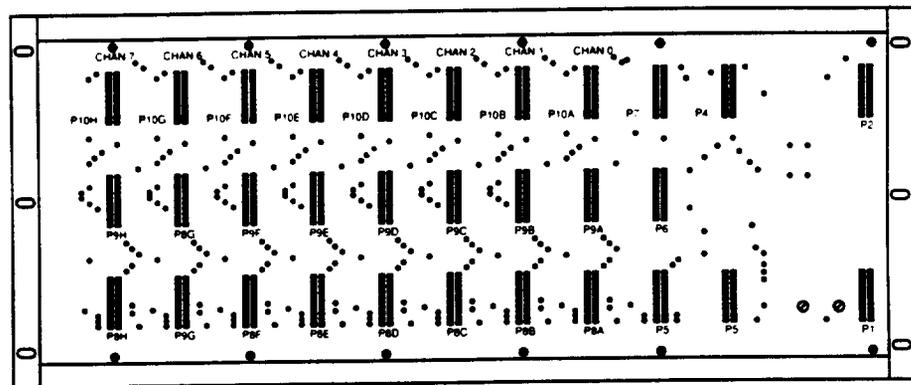

Figure 7. 13A Printed Wiring Backplane
3.01 Interconnection of circuit packs to input/output (I/O) terminals and between circuit packs is accomplished via a printed wiring backplane (Figure 7). Connection from the 13A Announcement System to interconnecting circuits is via a field of 0.045 inch square wire wrap pins on the backplane. The power lead connections are screw terminals.